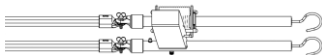

Figure 11 - Detail of the assembly with hookstick
- Connect Fase Tester to the hookstick, using the universal adapter, according to figure 11;